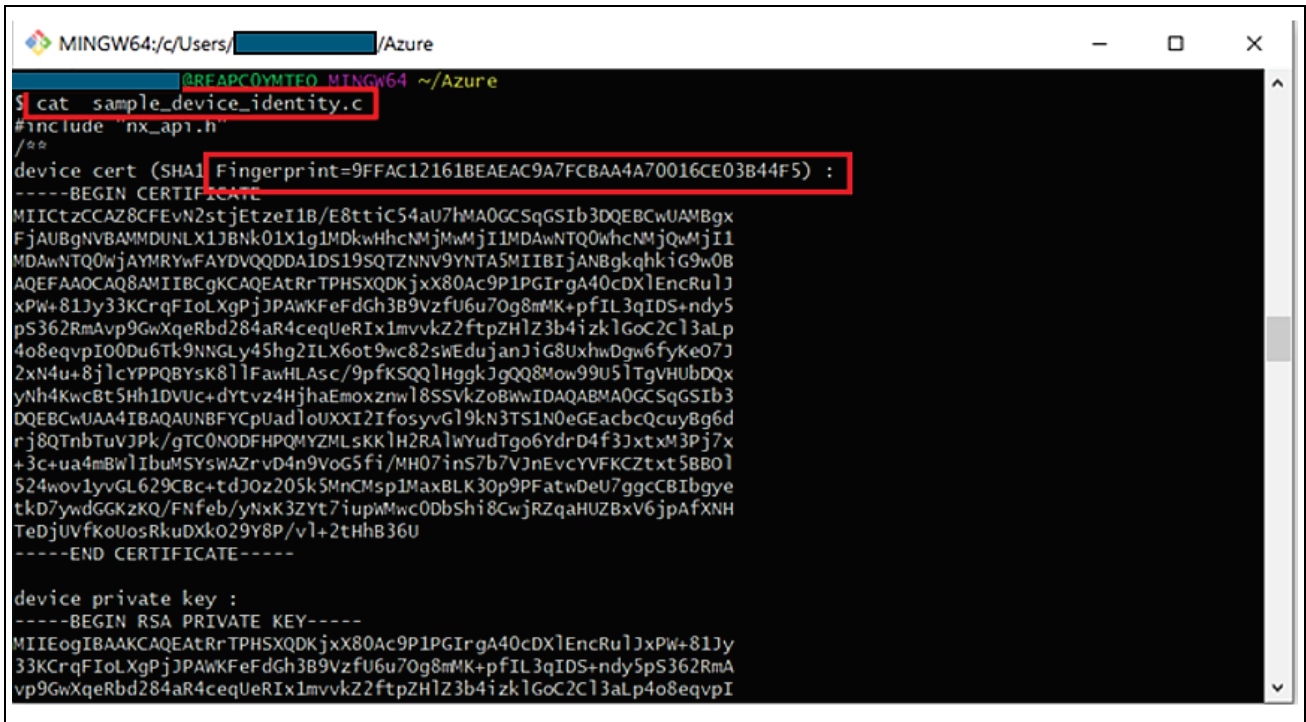

Figure 24. Check the content of sample_device_identity.c
- In this stage, you have to give Device ID, Authentication type, Primary thumbprint, Secondary thumbprint then click on **Create**. Use fingerprint generated in previous section (**Figure 24. Check the content of sample_device_identity.c**) for the primary and secondary thumbprints.